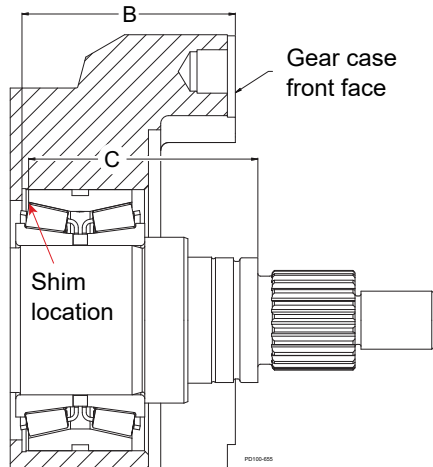
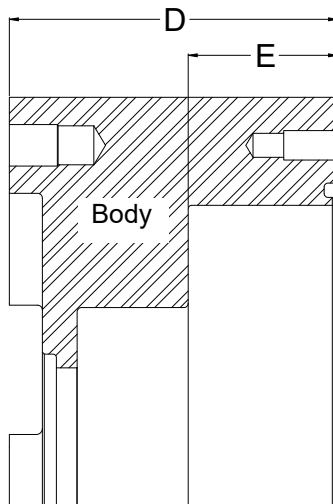

Figure 207 - Measure B & C
Figure 208 - Measure D & E
- When installing the shafts in the gear case, shim behind the front bearing to achieve the proper backface clearance between the back of the rotors and the body. (See Figure 207.) The backface clearance must be equal for both rotors to prevent the rotors from hitting each other during operation.
- If it is necessary to calculate the required shims for replacement shafts, bearings or both, refer to Figure 207 and Figure 208; carry measurements and calculations to three decimal places (e.g. 0.059).
- Measure "B" in the gear case and "C" on the shaft (Figure 207).
- Measure "D" and "E" on the body (Figure 208).
- Place the shims in the gear case, resting against the shoulder in the front bearing bore. (See Figure 207.)